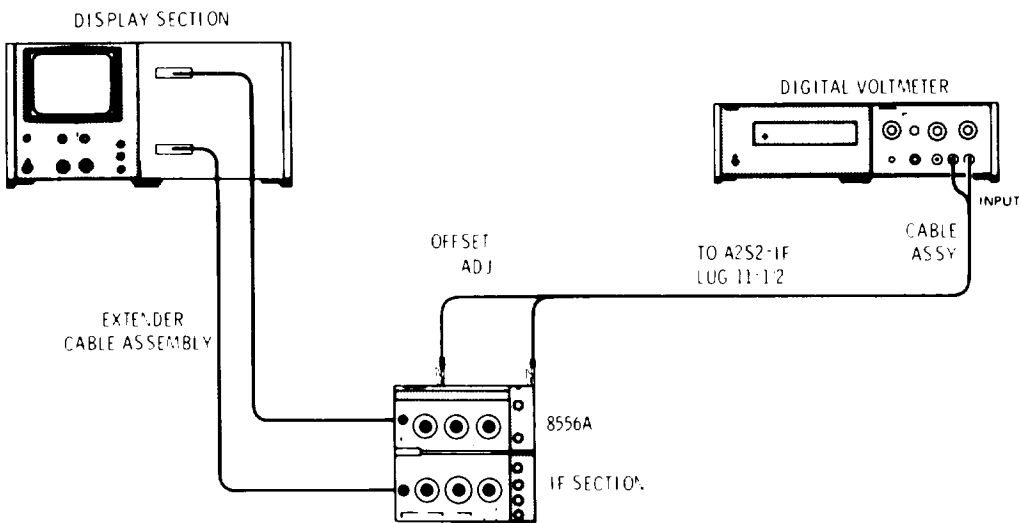

Figure 5-6. Frequency Calibration Adjustment Test Setup
1. Connect equipment as shown in Figure 5-6, connecting Digital Voltmeter between Scan Width Switch Assembly A2, wafer S2-1R lug 11½ (where white-red-gray. 928, wire is connected) and chassis ground.